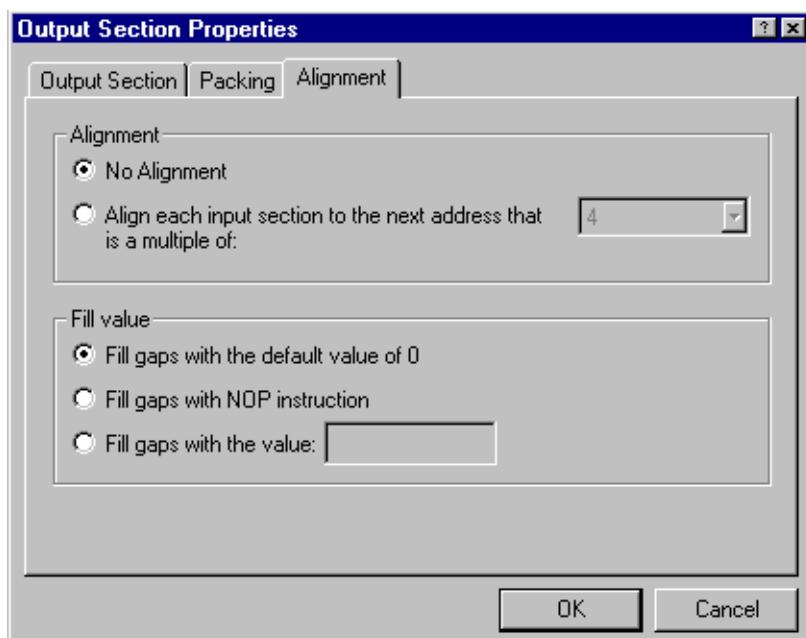

Figure 4-53. Output Section Properties – Alignment Tab
3. Click the **Alignment** tab (Figure 4-53).